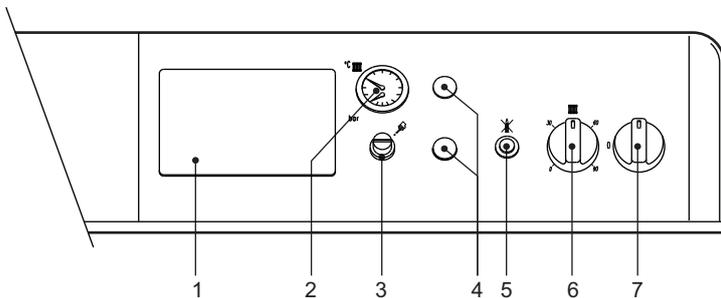

fig. 1 - Control panel
- Turn the boiler switch "7" to 1 (fig. 1).
- If the boiler is equipped with an electronic thermostatic controller fitted in position 1 of fig. 1, the user must also take into account the manufacturer's instructions.
Turn the knob **6** of fig. 1 clockwise to increase the heating water temperature, or anti-clockwise to decrease it. The temperature can be varied from a minimum of 30°C to a maximum of 90°C. However, it is advisable not to operate the boiler below 45°C.
Using the room thermostat, set the temperature required in the rooms. By room thermostat command, the boiler lights and brings the system water to the temperature set by boiler control thermostat **6** of fig. 1. The generator goes off when the required temperature in the rooms is reached.
The filling pressure with system cold, read on the boiler water gauge detail 2 of fig. 1, must be approx. 1.0 bar. If, during operation, the system pressure falls (due to the evaporation of gases dissolved in the water) to values below the minimum described above, the user must bring it to the initial value by operating the filling cock. At the end of the operation always close the filling cock.